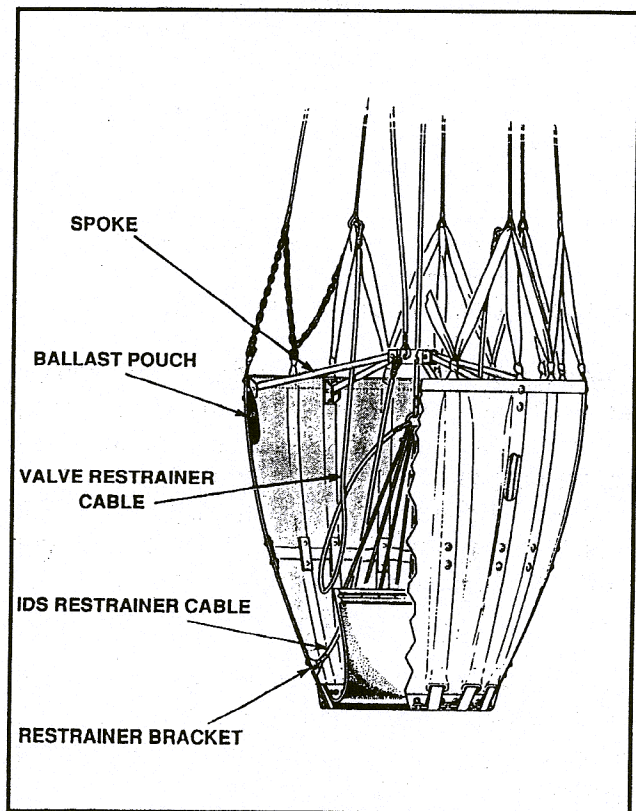

Figure 3: Bambi parts location.
1. Release the bottom end of the ballast side I.D.S. restrainer cable by removing the clevis pin from the restrainer bracket inside the bucket. See Figure 3 for parts location.
1. Release the bottom end of the ballast side I.D.S. restrainer cable by removing the clevis pin from the restrainer bracket inside the bucket. See Fig. 3 for parts location.